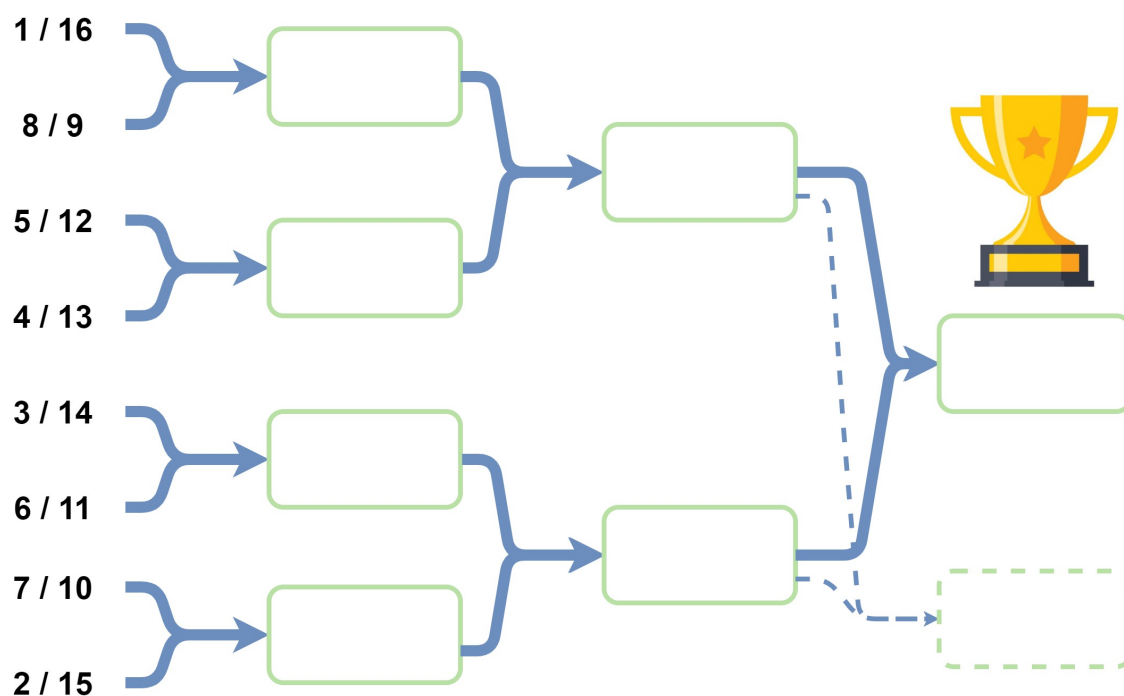

Figure 2: Tree of the final phase
Each team that wins its play-off match will be included in the main draw of the final phase of the match (B). At the end of the play-off phase, the tree of the final phase of the match (B) presented in Figure 2 may be revised to more accurately represent the level of each team.